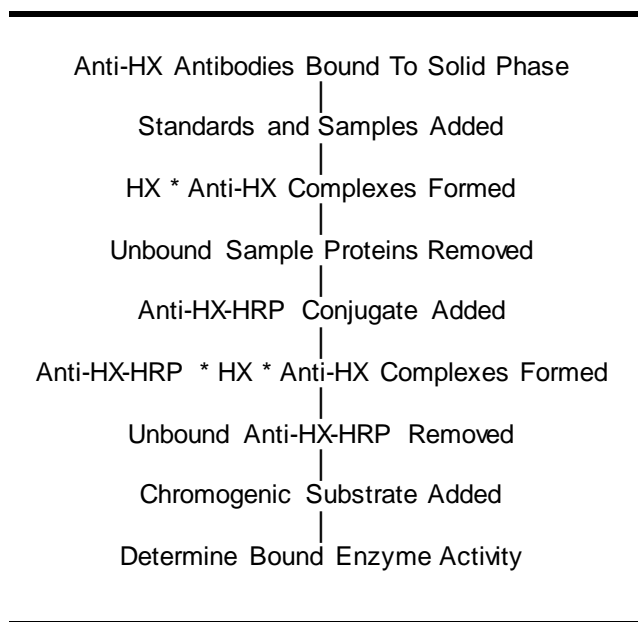

Figure 1
The principle of the double antibody sandwich ELISA is represented in Figure 1. In this assay the hemopexin (HX) present in samples reacts with the anti-HX antibodies, which have been adsorbed to the surface of polystyrene microtitre wells. After the removal of unbound proteins by washing, anti-HX antibodies conjugated with horseradish peroxidase (HRP) are added. These enzyme-labeled antibodies form complexes with the previously bound HX. Following another washing step, the enzyme bound to the immunosorbent is assayed by the addition of a chromogenic substrate, 3,3',5,5'-tetramethylbenzidine (TMB). The quantity of bound enzyme varies directly with the concentration of HX in the sample tested; thus, the absorbance, at 450 nm, is a measure of the concentration of HX in the test sample. The quantity of HX in the test sample can be interpolated from the standard curve constructed from the standards, and corrected for sample dilution.